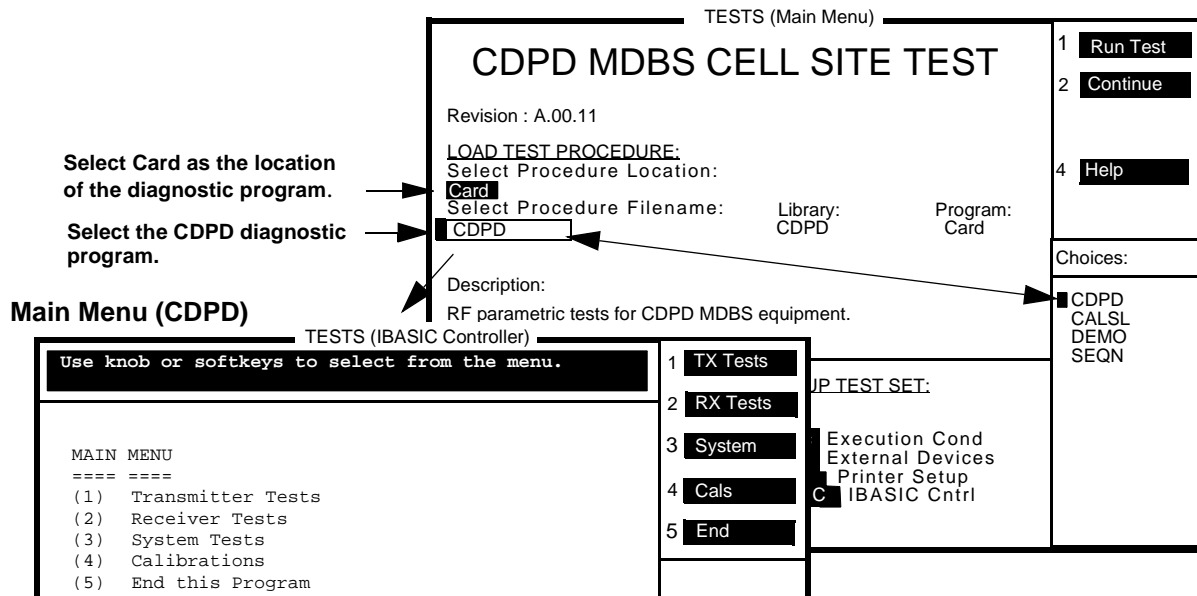

Figure 55 Main Menu (CDPD)
- Run the test, press k1 (**Run Test**). Wait (30 seconds to 2 minutes) for the (CDPD) Main Menu to appear, see figure 55.